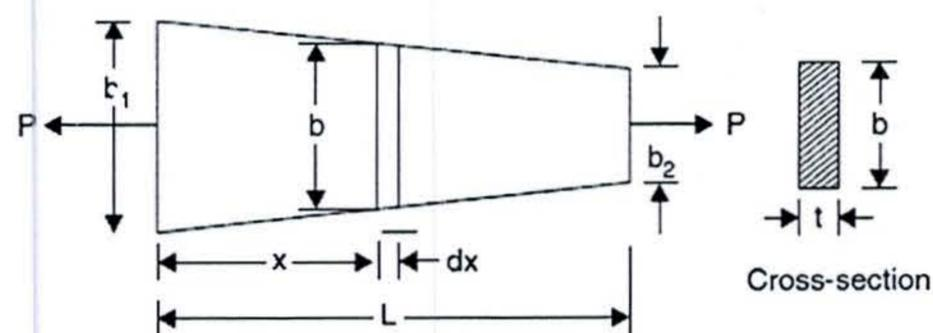

Figure1.
- c) A bar of uniform thickness 't' tapers uniformly from a width of b_1 at one end to b_2 at other end in a length 'L' as shown in Figure 1. Find the expression for the change in length of the bar when subjected to an axial force P. [15marks]